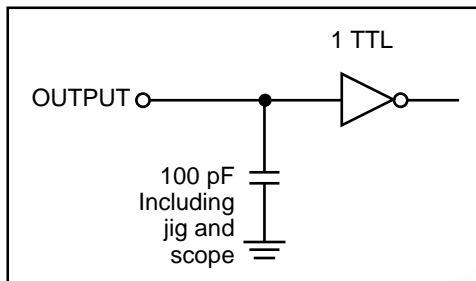

Figure 1
Output Load	See Figures 1 and 2
- Test conditions assume signal transition times of 5 ns or less, timing reference levels of 1.3V, input pulse levels of 0.4V to 2.2V and output loading specified in Figure 1.
1. Test conditions assume signal transition times of 3 ns or less, timing reference levels of 1.3V, input pulse levels of 0.4V to 2.2V and output loading specified in Figure 1.